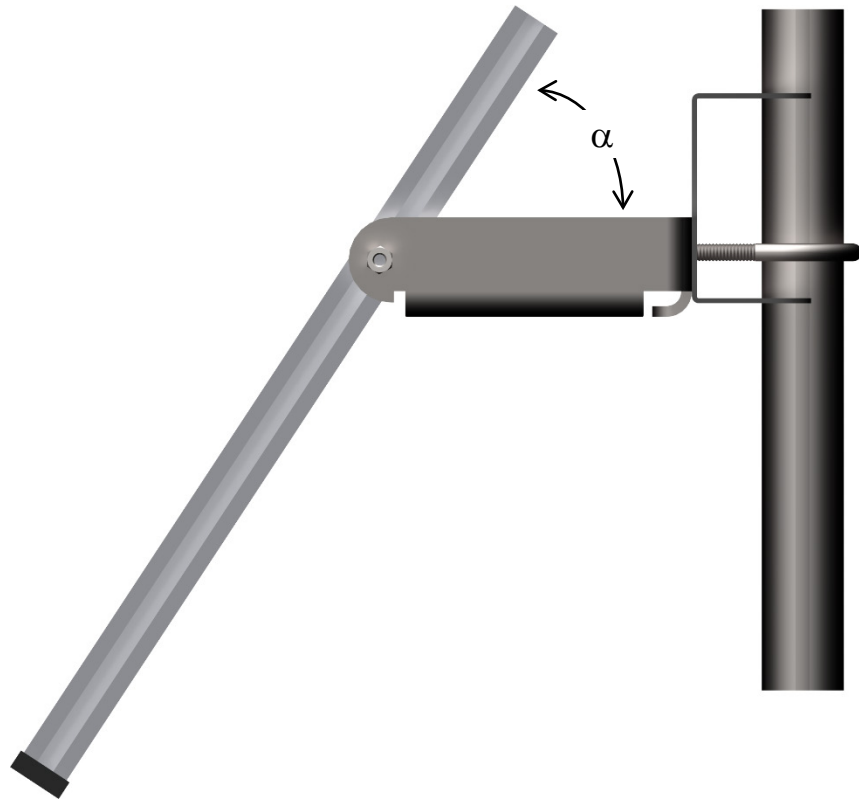

FIGURE 2-42. Side View of Solar Panel Shows Tilt Angle
- a) Mount the solar panel to the tower using the mounting brackets as shown in FIGURE 2-42. Mount the solar panel to the tower so it faces south (northern hemisphere). Position it as high off the ground as practical, ensuring it cannot interfere with air flow or sunlight around the sensors. The solar panel should be oriented to receive maximum insolation over the course of the year. Suggested tilt angles (referenced to the horizontal plane) are listed below.
- b) After determining the tilt angle, loosen the two bolts that attach the mounting bracket to the panel. Adjust the angle, then tighten the bolts. Secure the lead wire to the mast using wire ties as show in FIGURE 2-42. Connect the plug at the end of the solar panel cable to the connector marked “Power”. Make sure the plug is fully seated and the locking ring turned clockwise until it stops.